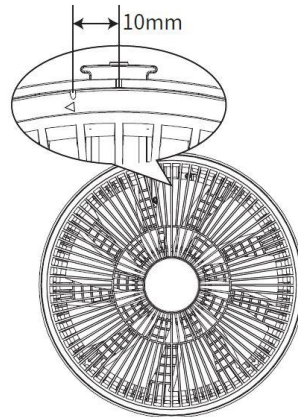
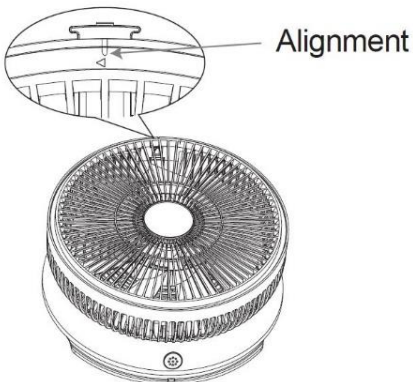

Figure 12
Figure 13
- Align the front and rear grille by attach them together around 10mm of effective distance (Figure 12), then rotate it until the front grille is tight (Figure 13).